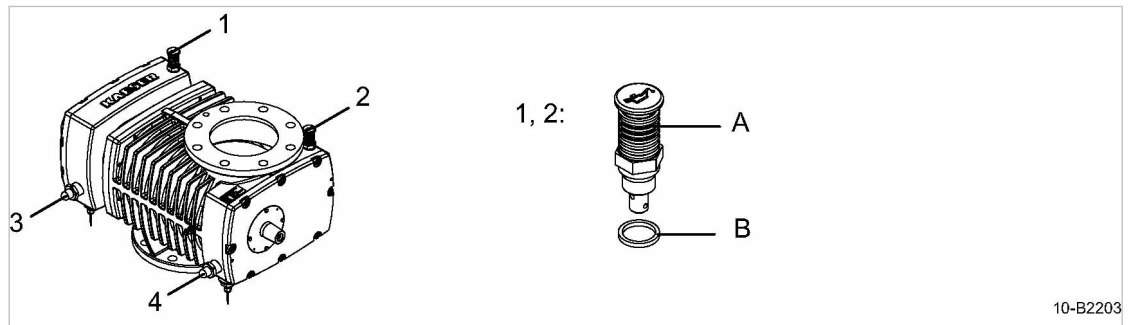

Fig. 30 Replenishing lubricating oil
2. Use the wrench to slowly unscrew the vents for the oil inlets at the blower block, see (1) and (2) in Fig. 30 and remove the sealing rings.
3. Unscrew the caps (2) at the control and drive ends and open the oil drain tap (1) at the gear and drive ends.